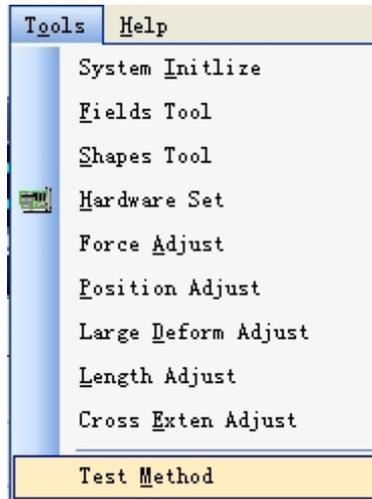

Figure 6-1
- 3 in the main menu click on Tools, Options form, shown in Figure 6-1;
Run the test program into the login form, as shown in Figure 6-1;